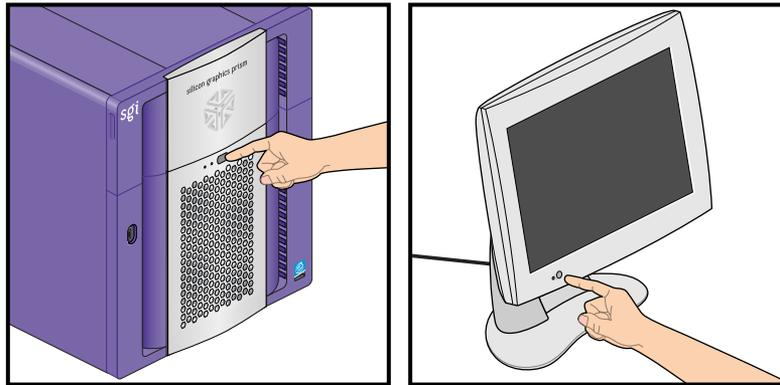

Figure 1-10 Powering Off the System Using the Front Power Button
2. Press the power button, as shown in Figure 1-10.